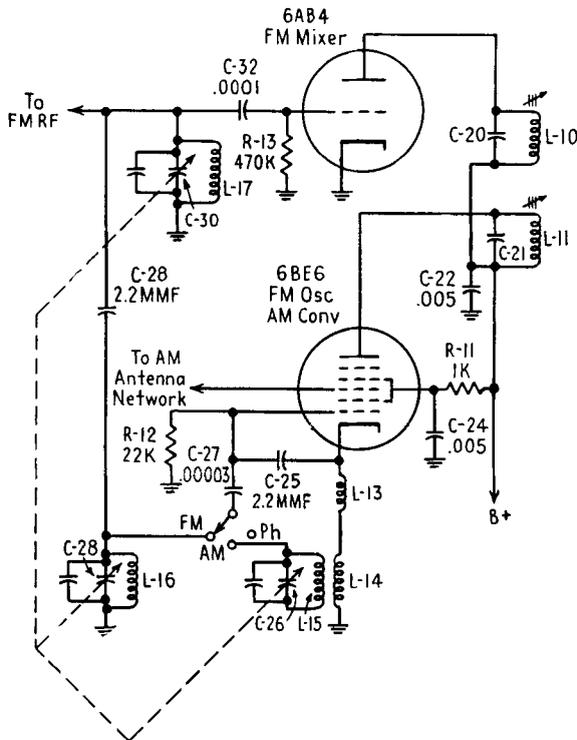

FIG. 25-12. Converter in the basic receiver.
**The F-M frequency-conversion system.** There are several ways of achieving frequency conversion in F-M systems. However, it is almost a universal practice to use a separate oscillator and a separate mixer stage. The circuit of Fig. 25-12 is typical.